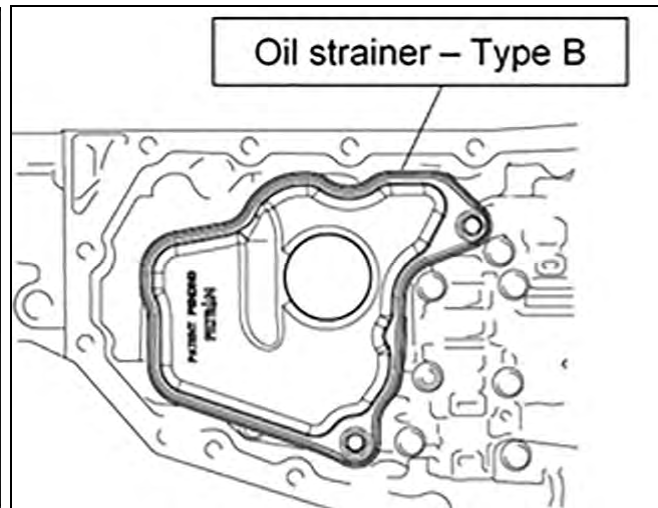

Figure 29
- b. Remove the two (2) 54 mm temperature sensor bracket bolts, and then remove the temperature sensor bracket (see Figure 29).